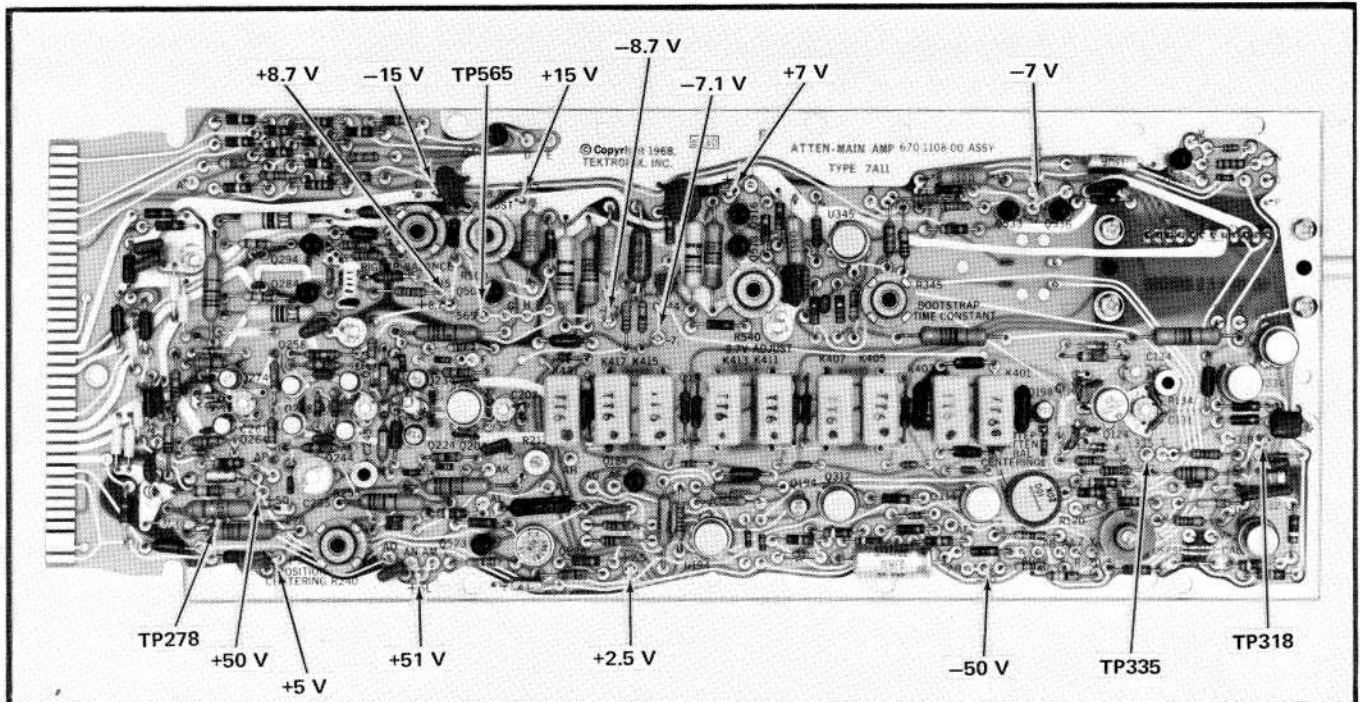
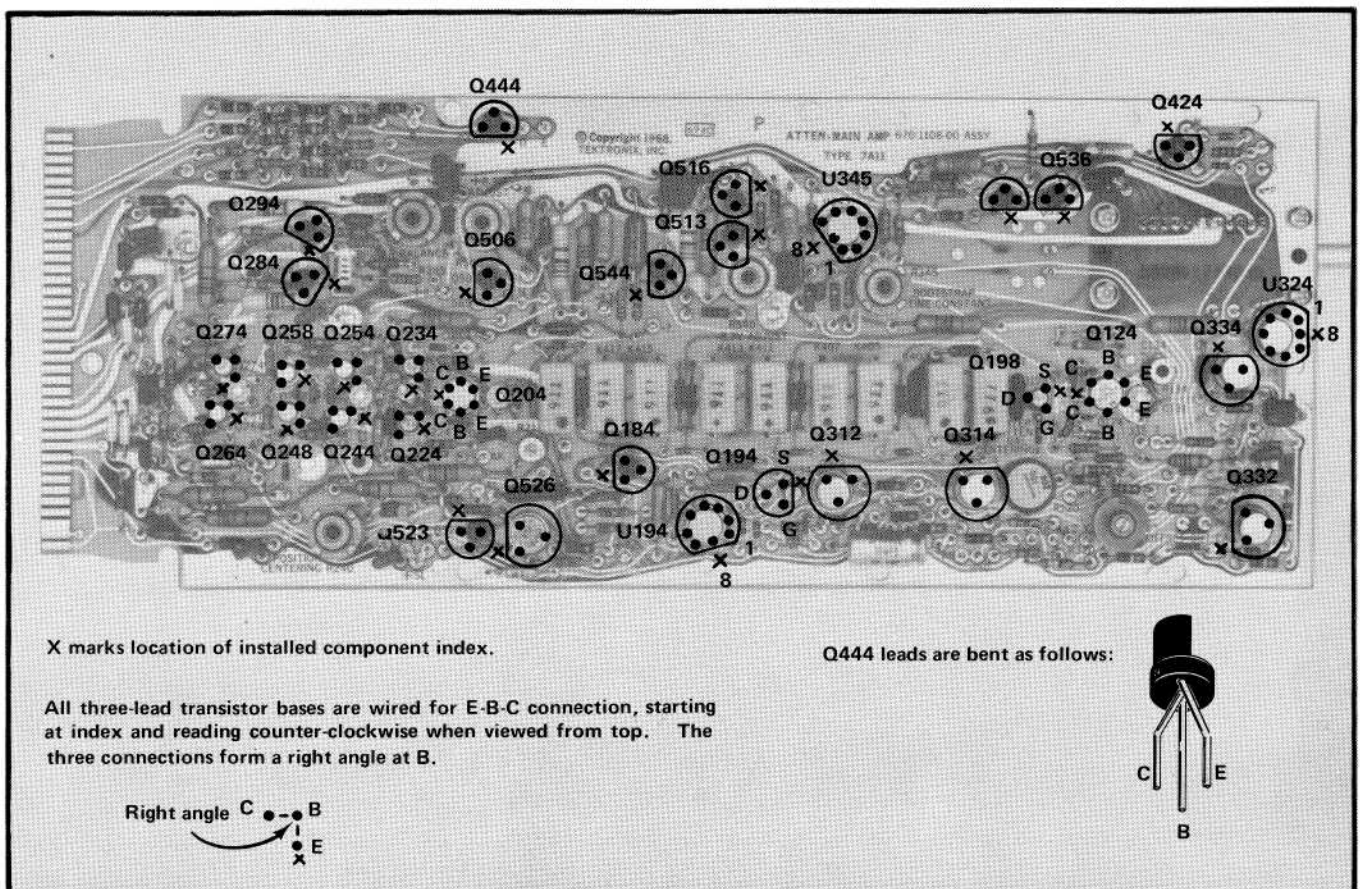

Fig. 4-8. Test Point locations within Plug-In Unit.
Fig. 4-9. Transistor and integrated-circuit placement within Plug-In Unit.
**Circuit Board.** Component locations and wire color coding are shown in Fig. 4-8 through 4-12. Transistor terminals are identified in Fig. 4-9. Circuit board access is explained in the following topic.
- (1) Remove the cable connector cover.
- (2) Open the Probe Accessories case, remove the two nuts which hold it in place, and lift it out.
- (3) Remove the nut and cable clamp in the back near the bottom.
- (4) Lift the rear of the outer shield, freeing it from the studs. Then remove it, manipulating it as necessary.